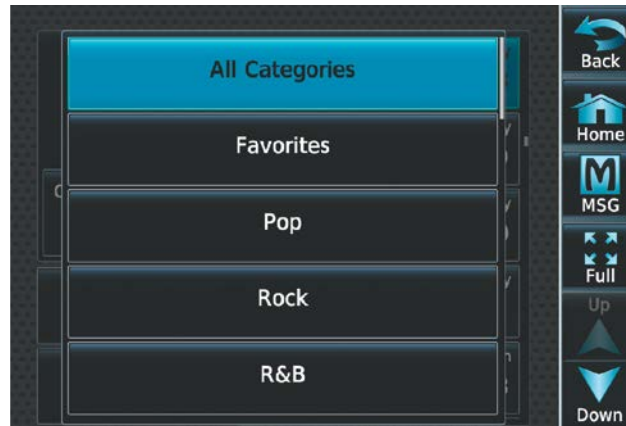

Figure 8-96 Channel Categories
- 2) The list of categories is displayed as shown in Figure 8-96.